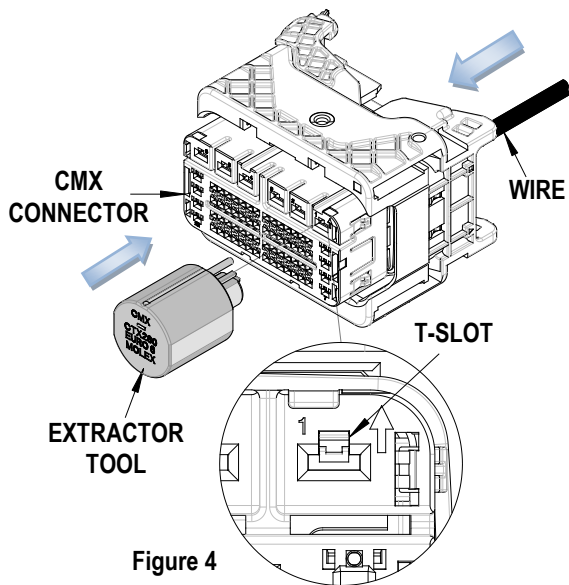

Figure 4
1. Position the blade of the extraction tool into the small “T” slot in the front face of the housing as shown in Figure 4. Use the identifying markings on both the front and back of the connector to locate the opening used to extract the crimped wire.